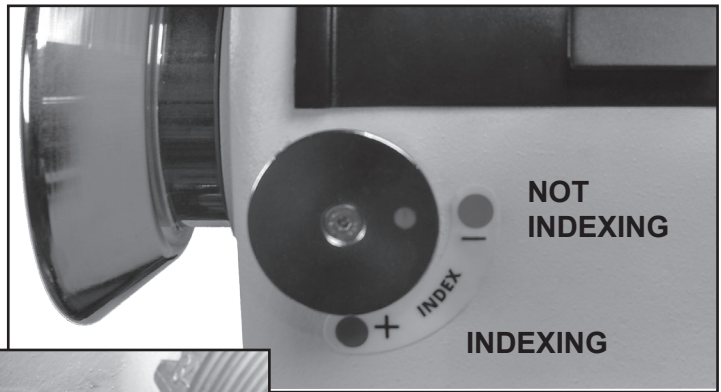

FIG. 20
Conveniently located on the front of the headstock, the Index Pin Assembly (FIG. 20 & 21) is used to hold and position the spindle for making accurate, spaced pattern work on projects such as straight fluting, grooving, drilling, detail carving, wood burning patterns and laying out designs. See page 17 for more information.
- Rotate the Index Knob (FIG. 20) from the 'not-indexing' position (red dot -) down to the 'indexing position' (green dot +). This will insert the Index Pin's shaft into one of the Spindle Pulley's holes, locking the spindle in place.